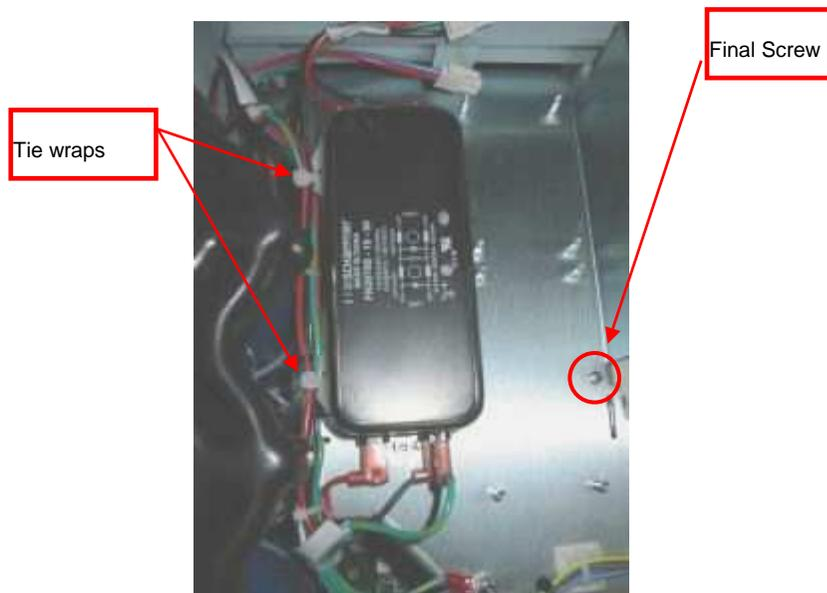

Figure 29: PS Charger – Ties & Screws
9. Remove the last screw in the metal plate (Figure 29).
10. Cut any tie wraps that might interfere with lifting the plate. Refer to Figure 29: PS Charger – Ties & Screws for examples tie wrap placement.